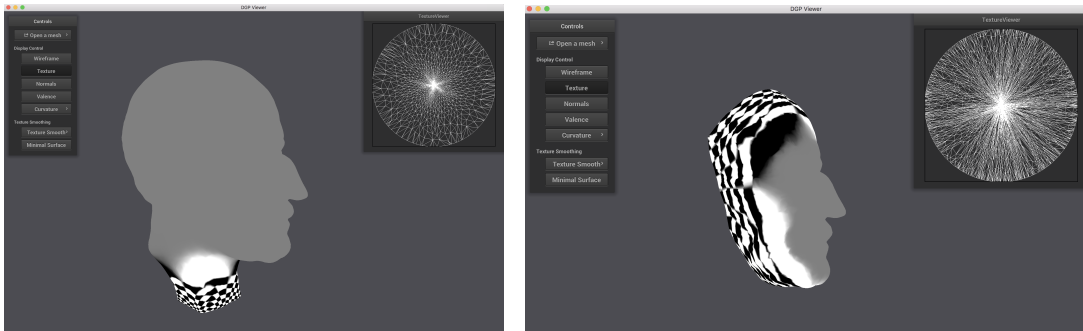

Figure 2: Texture view mode after 10 iterations of iterative solve.
Complete the function `iterative_solve_textures()`. Make sure that the cotan weights you are using satisfy the conditions from equations (2). To see the result of one iteration in the viewer click on the Texture Smooth > Iterative Solve button. The result after running 10 iterations of the interactive smoothing is shown in Figure2.